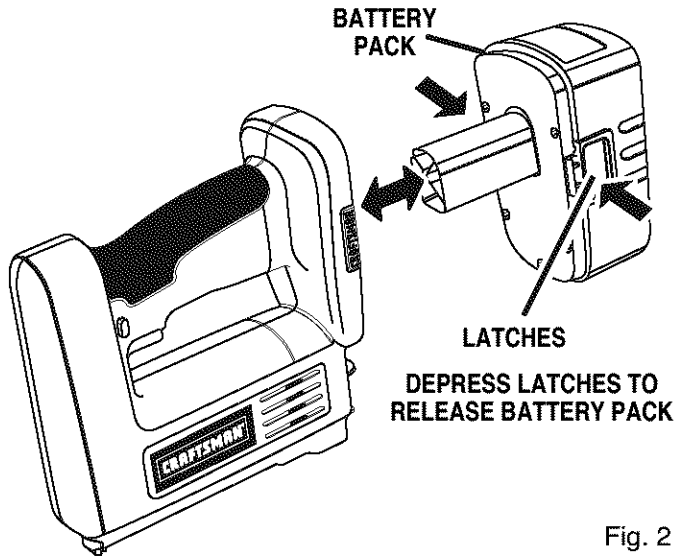

Fig. 2
- Place battery pack in your tool. Align raised rib on battery pack with groove inside tool. See Figure 2.
- Locate latches on side of battery pack and depress to release battery pack from the tool. See Figure 2.